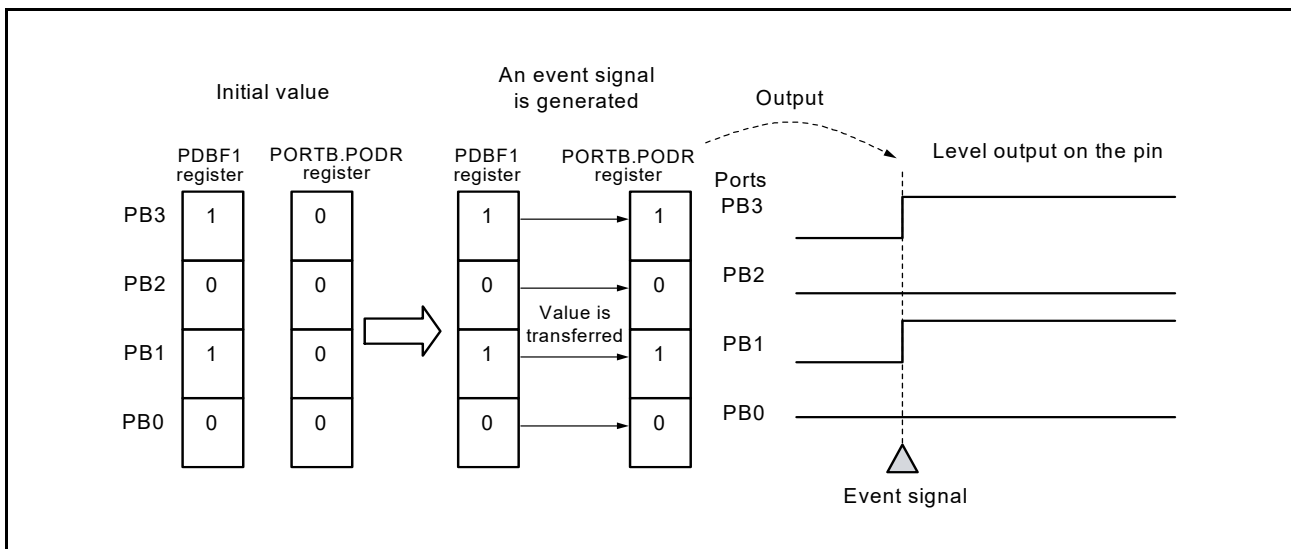

Figure 15.5 Event Linkage Related to Output Port Groups (Port B)
- If an event is input to an output port group while the PGCn.PGCON bit being 011b, the PDBFn value is transferred to the PODR register of the port which was specified in the PGRn register. Example of operation of the output port group upon an event input (when PGCn.PGCON = 011b) is shown in Figure 15.5.